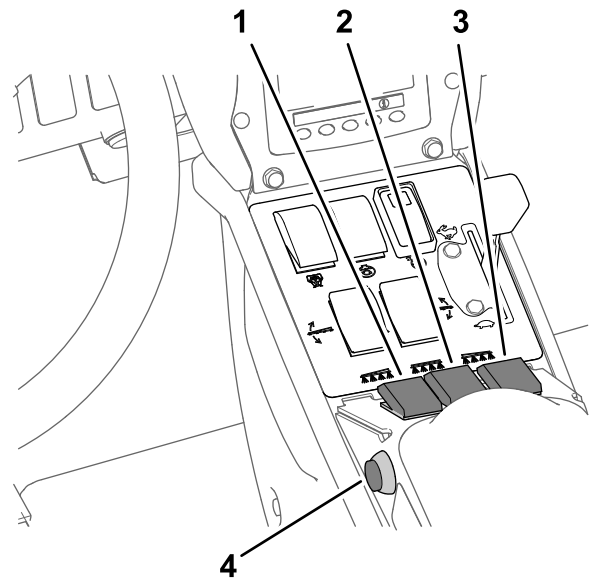

Figure 36
7. Set the spray section switch(es) to the ON position (Figure 36).
10. Drive at the desired speed and then set the master section switch to the ON position to begin spraying (Figure 36).
3. Set the master section switch to the OFF position; refer to Figure 36 in Spraying in the Application Rate Mode \(page 33\).
7. Set the individual section switches, as needed, to the ON position; refer to Figure 36 in Spraying in the Application Rate Mode \(page 33\).
9. Drive at the desired speed and then set the master section switch to the ON position to begin spraying; refer to Figure 36 in Spraying in the Application Rate Mode \(page 33\).